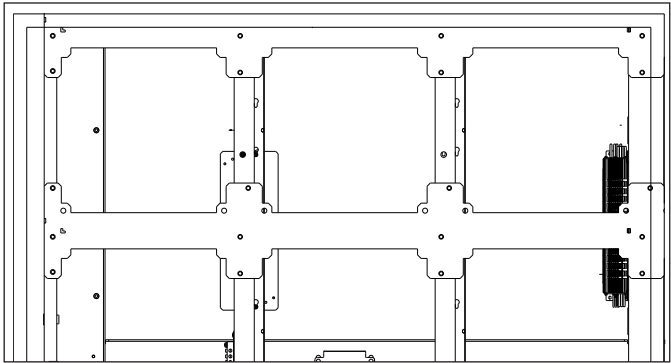

Figure 41: Mounting Screws
- 3. Remove the required modules to gain access to the power supply to be removed. Refer to **Figure 41**.